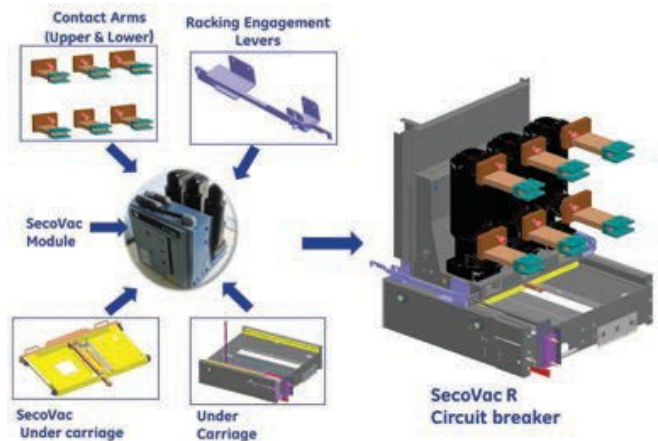

Figure 1: SecoVac R Circuit Breaker Main Components
- **SecoVac Module:** Circuit breaker element including interrupters, operating mechanism and connecting terminals, see Figure 1.